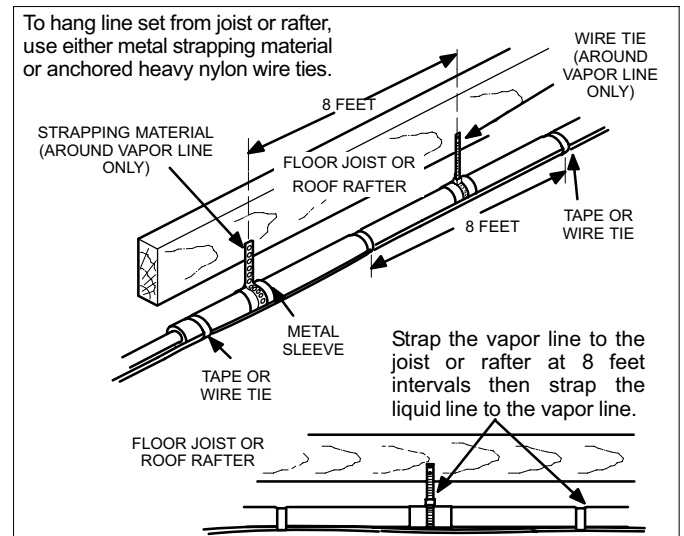

**Figure 11. Refrigerant Line Set: Installing Vertical Runs (New Construction Shown)**
- Installation of **line set on vertical runs** is illustrated in figure 11.